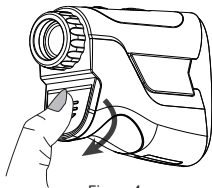

Figure 4
- 1) Press the battery cover firmly and slide it downwards to open it. (as figure 4)